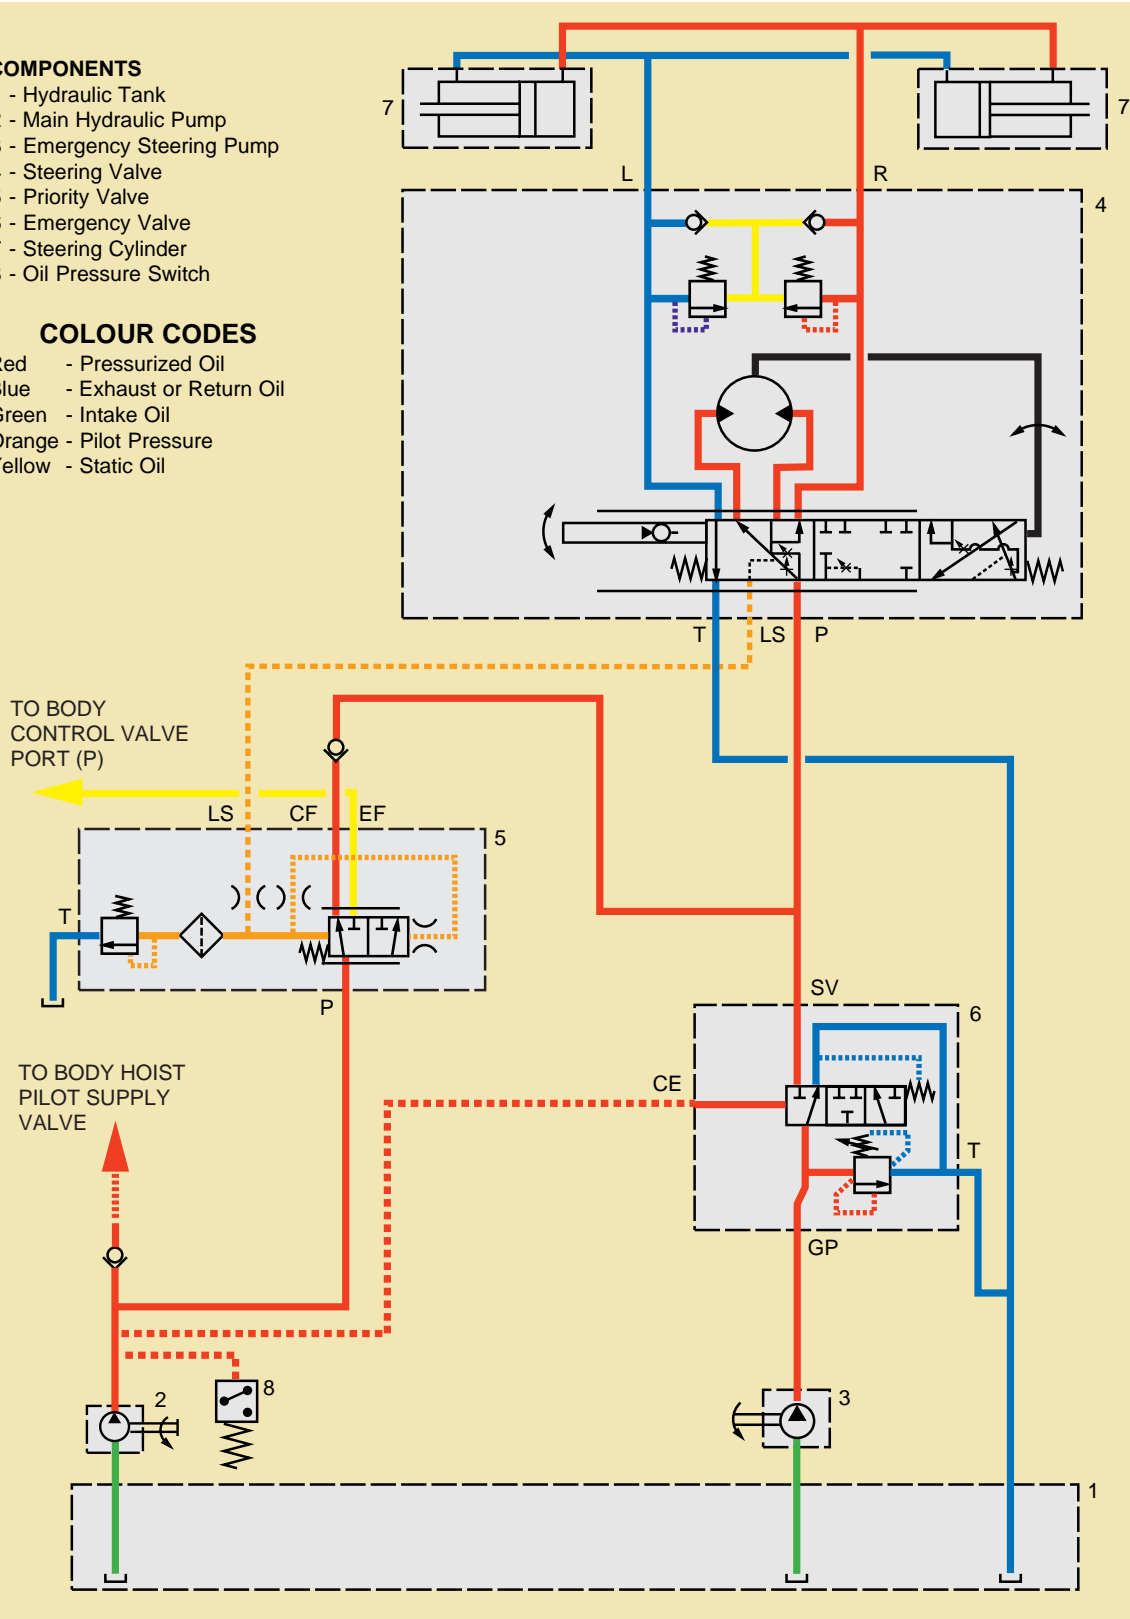

Fig. 3 - Steering System Schematic Diagram - Engine Running, Steering Valve Right Turn
Spool (16) contains porting matched to sleeve (8) and rotates within sleeve (8) to provide directional control of the oil. See Fig. 3.